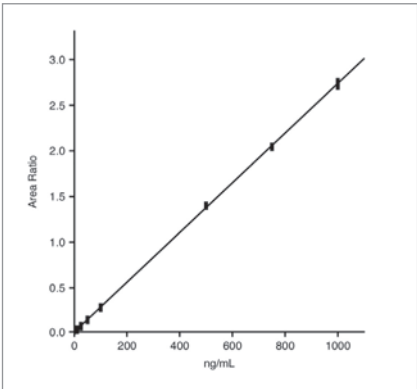

Figure 1: Diclofenac linearity over the dynamic range 1 to 1000 ng/mL
Extracted diclofenac standards from human plasma gave a linear calibration curve over the dynamic range of 1 to 1000 ng/mL with an r² coefficient of 0.999 (Figure 1). Six replicates of a 15ng/mL Quality Control (QC) sample were analysed. The precision of the QC was less than 4.4% CV (Table 1). Overspikes were run in triplicate at a concentration of 15 ng/mL and used to calculate the 85.8% percentage recovery level for diclofenac.